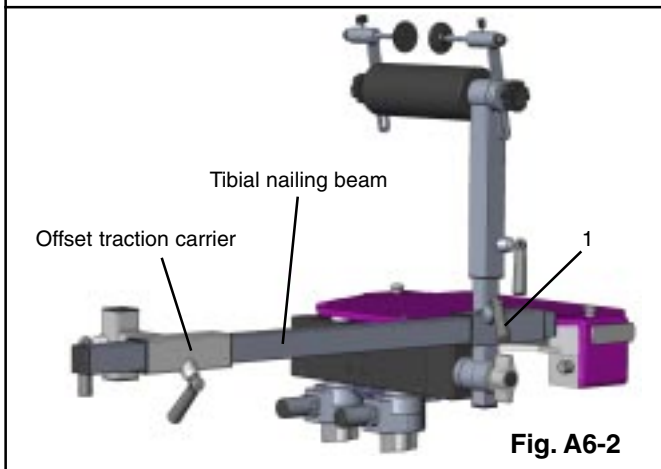

Fig. A6-2
Tibial nailing beam. Place into the tibial nailing upright assembly as shown in Fig. A6-2. The clamp (1) may need to be slackened. Tighten clamp (1) after assembly.